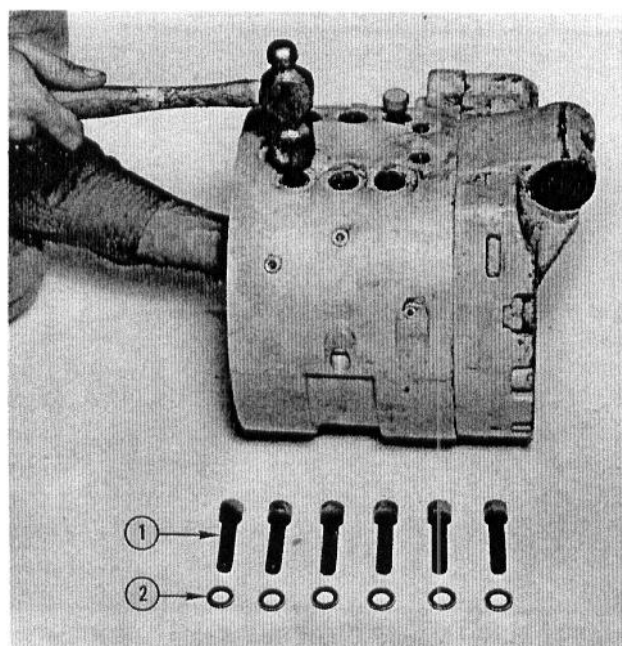

Fig. 39 — Removing Barrel Vane
d. Using a punch, drive the six dowel pins toward the inside of the barrel, catching the dowel pins to prevent them from hitting the inner surface of the barrel. (See Fig. 39.)